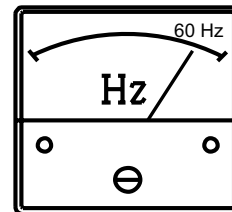

Figure 39. Frequency Meter
- The generator's frequency meter (Figure 39) should be displaying the 60 cycle output frequency in **HERTZ**.